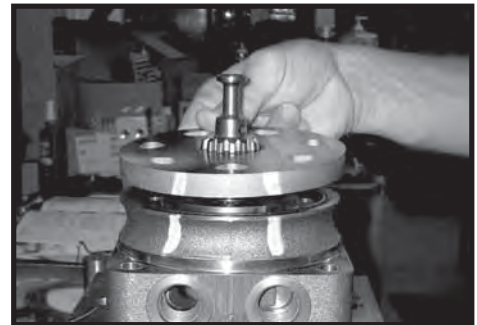

Figure 43
- Assemble wear plate and seal ring** 12. Assemble wear plate (9) over the drive link (10) and alignment studs onto the housing (18). SEE FIGURE 43.